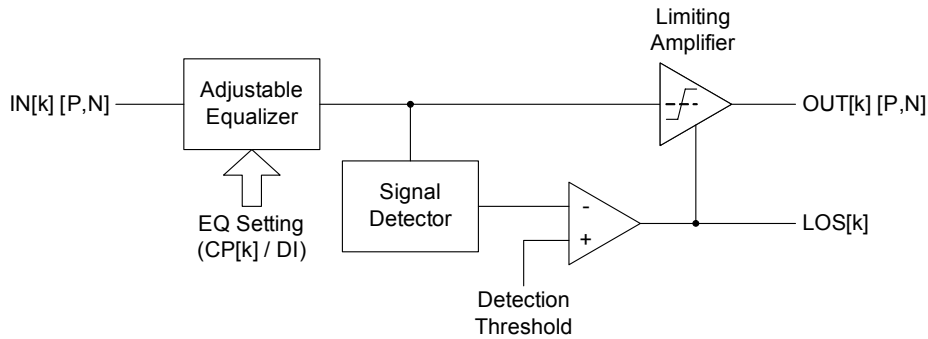

FIGURE 22. FUNCTIONAL DIAGRAM OF A SINGLE CHANNEL WITHIN THE QLx4600-SL30
The QLx4600-SL30 is an advanced quad lane-extender for high-speed interconnects. A functional diagram of one of the four channels in the QLx4600-SL30 is shown in Figure 22. In addition to a robust equalization filter to compensate for channel loss and restore signal fidelity, the QLx4600-SL30 contains unique integrated features to preserve special signaling protocols typically broken by other equalizers. The signal detect function is used to mute the channel output when the equalized signal falls below the level determined by the Detection Threshold (DT) pin voltage. This function is intended to preserve periods of line silence (“quiescent state” in InfiniBand contexts). Furthermore, the output of the signal detect/DT comparator is used as a loss of signal (LOS) indicator to indicate the absence of a received signal.
As illustrated in Figure 22, the core of each high-speed signal path in the QLx4600-SL30 is a sophisticated equalizer followed by a limiting amplifier. The equalizer compensates for skin loss, dielectric loss, and impedance discontinuities in the transmission channel. Each equalizer is followed by a limiting amplification stage that provides a clean output signal with full amplitude swing and fast rise-fall times for reliable signal decoding in a subsequent receiver.